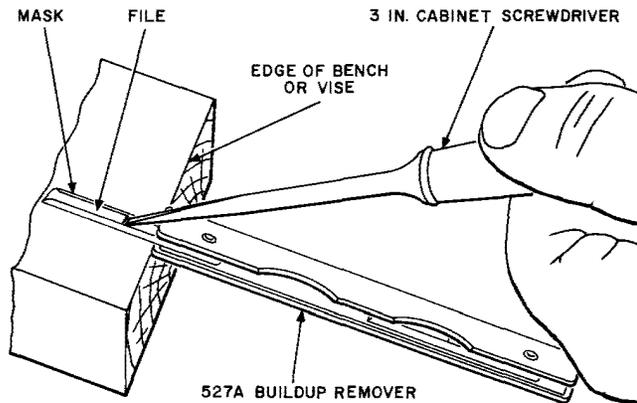

Fig. 1—Method of Removing File from Mask
3.03 Clean the file portion of the 527A build-up remover before each usage. To remove the file from the mask, place the blade face down on the edge of a bench or vise with the handle extending over the edge, place the blade of the 3-inch C screwdriver in back of the file as indicated in Fig. 1, and tap the handle of the screwdriver lightly, using the palm of the hand,◆ until the file is free of the mask.